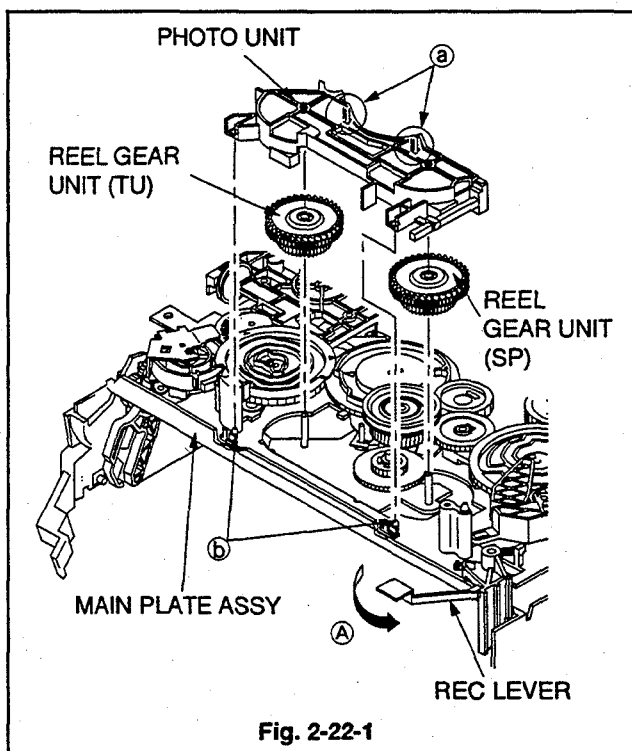

Fig. 2-22-1
1. Move the REC LEVER, shown in Fig. 2-14-1, in the direction shown by arrow (A). Unfasten Catches (a) of the PHOTO UNIT, and Catches (b) of the MAIN PLATE ASSY, shown in Fig. 2-22-1, to remove the PHOTO UNIT.
2. Remove the REEL GEAR UNIT (TU) shown in Fig. 2-22-1.
3. Remove the REEL GEAR UNIT (SP) shown in Fig. 2-22-1.
4. Install the REEL GEAR UNIT (TU) shown in Fig. 2-22-1.
6. Install the PHOTO UNIT shown in Fig. 2-22-1.